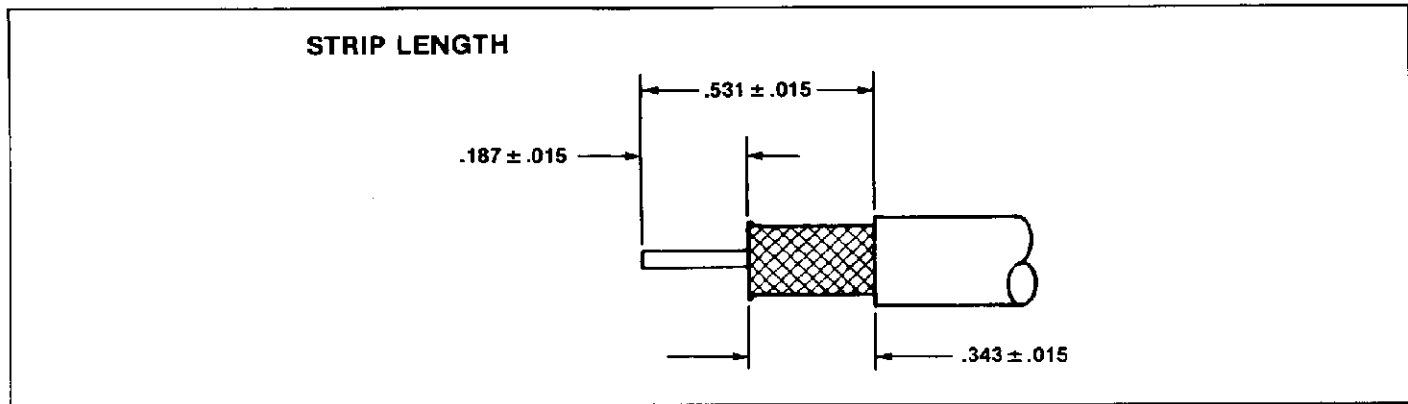

Fig. 2
1. Slide ferrule onto cable, and strip cable in accordance with the dimensions shown in Figure 2.